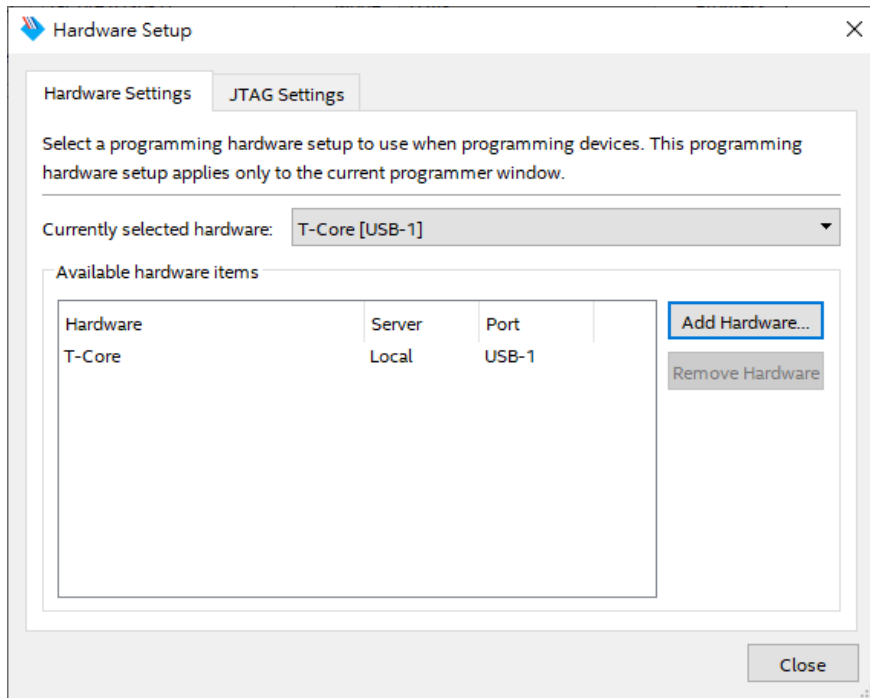

Figure 4-16 Hardware setup window
2. Click **Hardware Setup** and then select the DECore[USB-*] as shown in Figure 4-16.